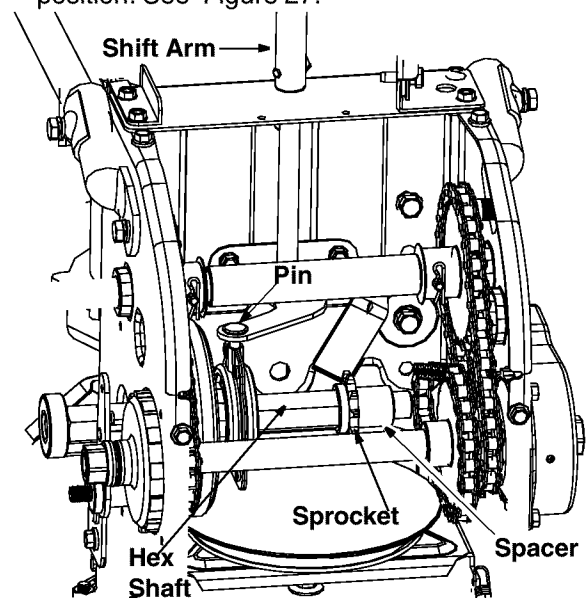

Figure 27
- Insert the pin from the shift arm assembly into the friction wheel assembly and hold assembly in position. See Figure 27.
- Insert the hex shaft through the sprocket and the spacer. See Figure 27. Make certain that chain engages both the large and the small sprocket.
**NOTE:** If the sprocket fell from the snow thrower while removing the hex shaft, place the sprocket on the hex shaft. Position the hex hub of the sprocket toward the friction wheel when sliding the sprocket on to the hex shaft. See Figure 27.